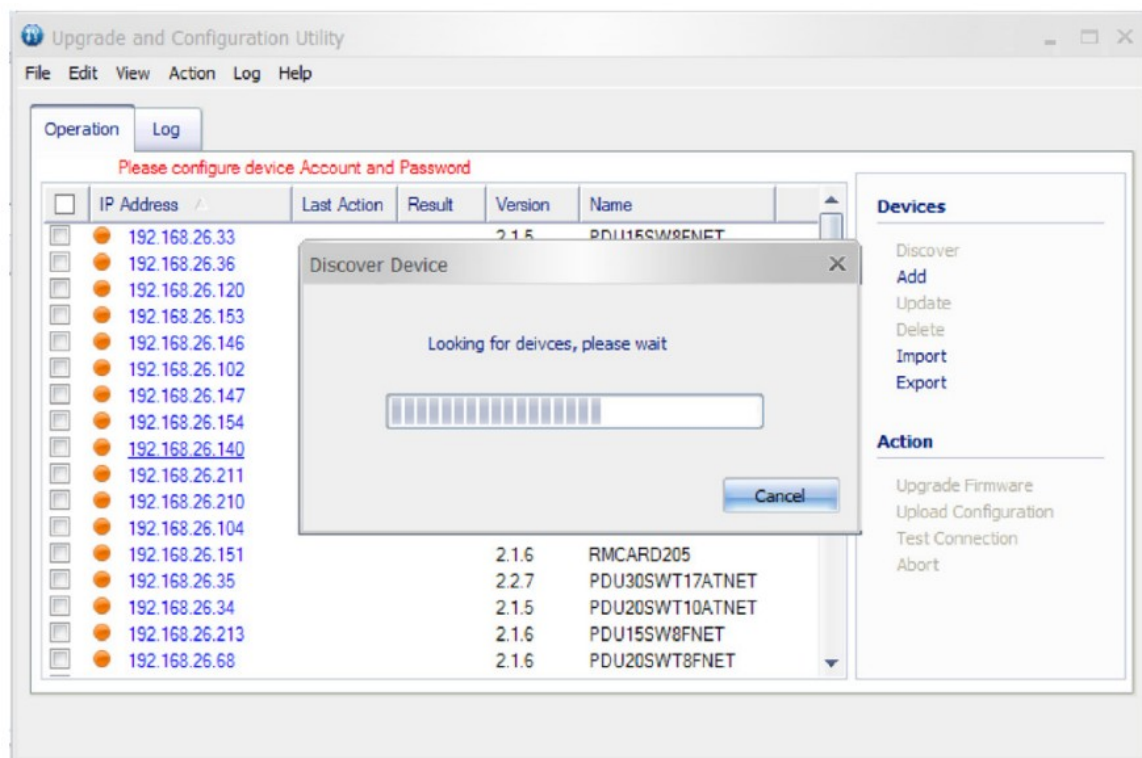

Figure 1
3. Wait for search to finish (Shown in Figure 1).